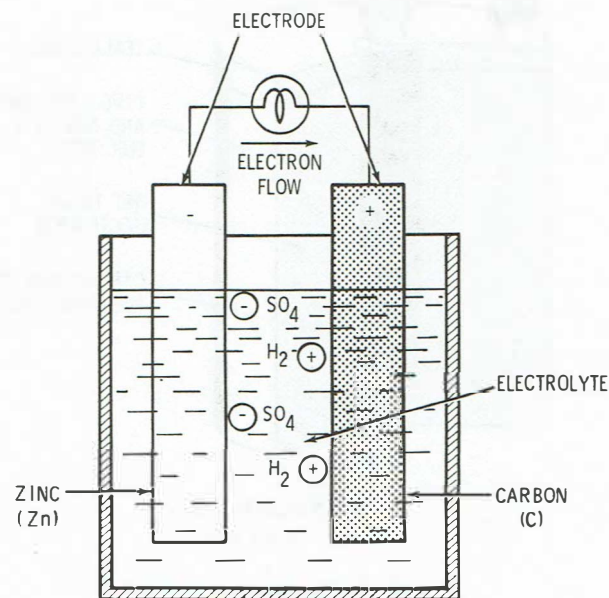
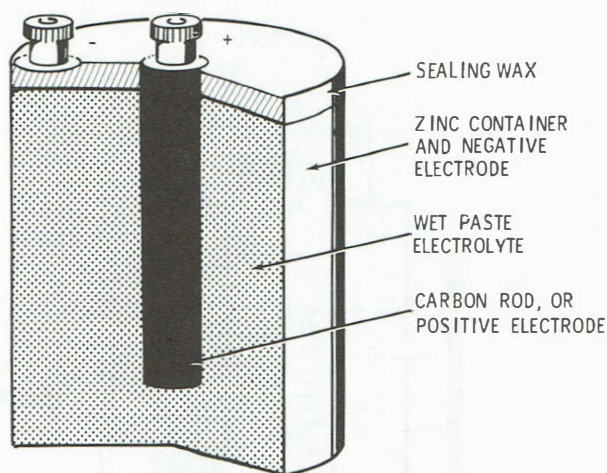

Figure 3-1
Figure 3-2
A cell is a device that transforms chemical energy into electrical energy. The simplest cell, the voltaic cell, shown in Figure 3-1, consists of a piece of carbon (C) and a piece of zinc (Zn) suspended in a jar that contains a solution of water ( $\text{H}_2\text{O}$ ) and sulfuric acid ( $\text{H}_2\text{SO}_4$ ).
The electrodes are the conductors by which the current leaves or returns to the electrolyte. In the voltaic cell, they are carbon and zinc strips that are placed in the electrolyte; while in the dry cell, shown in Figure 3-2, they are the carbon rod in the center and the zinc container in which the cell is assembled.
The electrolyte is the solution that acts upon the electrodes which are placed in it. The electrolyte may be a salt, an acid, or an alkaline solution. In the simple voltaic cell, in Figure 3-1, and in the automobile storage battery, the electrolyte is a liquid; while in the dry cell, shown in Figure 3-2, and the gelled-cell, the electrolyte is a paste.